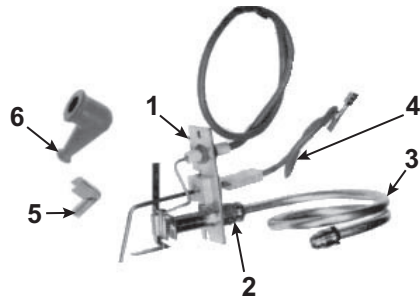

Figure 9. Pilot Replacement Kit Components
- Components provide in pilot replacement kits are shown in Figure 9 and listed in Table 15.